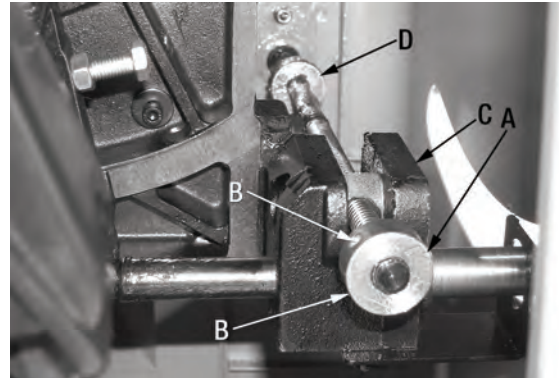

FIGURE 20
4. If the blade is not at 90 degrees, the 90 degree bushing (A) Fig.20 will need to be adjusted. Loosen the 2 set screws (B) in the 90 degree bushing (A). The 90 degree bushing (A) should stop against the front trunnion bracket (C) when the blade is at 90 degrees to the table. Rotate the 90 degree bushing (A) and place it up against the front trunnion bracket (C) and retighten the 2 set screws. Recheck and adjust further if necessary.
5. If the 45 degree positive stop is not set properly, turn the same handwheel clockwise as far as it will go and follow the same procedure by using the 45 degree bushing (D) Fig.20. Recheck and adjust further if necessary.